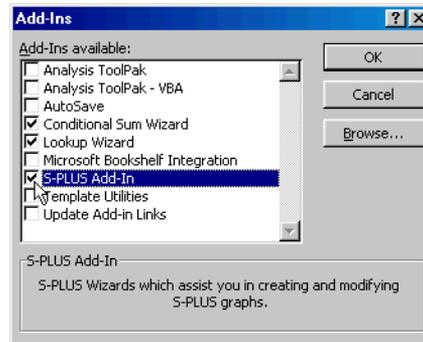

Figure 10.10: The *Add-Ins* dialog in Excel with the *Spotfire S+ Add-In* checked.
4. In the **Add-Ins** dialog, select the **Spotfire S+ Add-In** check box, as shown in Figure 10.10, and click **OK**.
4. In the **Add-Ins** dialog, clear the **Spotfire S+ Add-In** check box (see Figure 10.10.) and click **OK**.